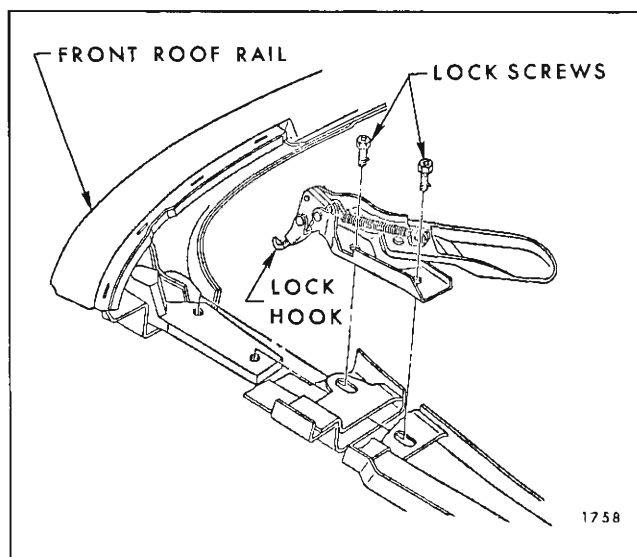

Fig. 5-I-54—Front Roof Rail Adjustment
2. With top in a half-open position, remove lock attaching screws; then remove lock assembly from front roof rail. (Fig. 5I54).
1. To tighten or increase locking action, turn lock hook clockwise. (Fig. 5I54).
2. To reduce or decrease locking action, turn lock hook counterclockwise. (Fig. 5I54).